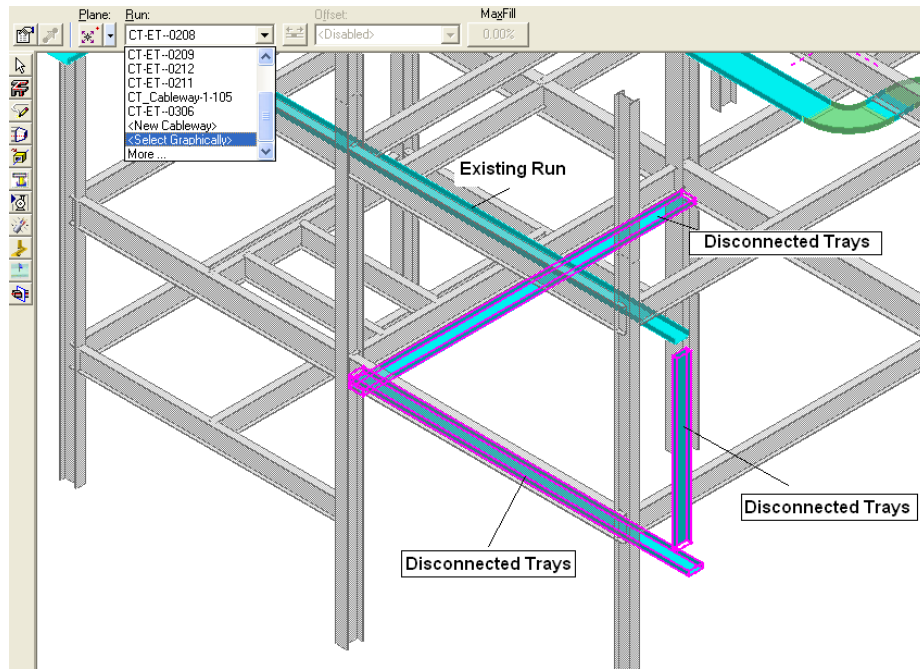

Figure 14: Routed Second Cableway
39. Group the three trays into the same cableway run as show in Figure 14. To do this, select all three straight features (disconnected trays) and use the **"Select Graphically"** option in the edit ribbon to select the existing run you want to group.